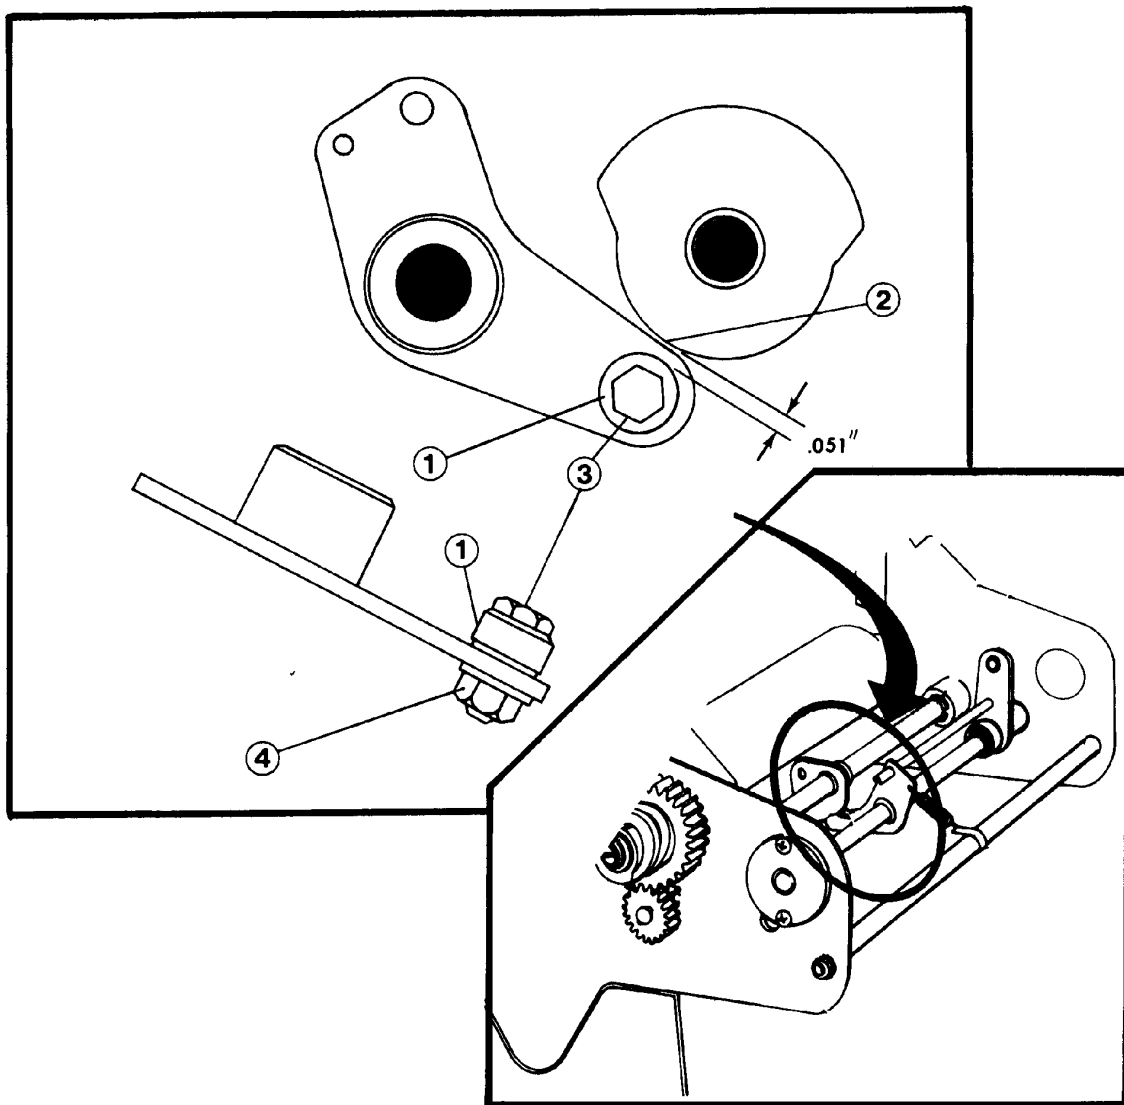

Figure 57 - Ink Ductor Roller
1. Turn the handwheel until the ink ductor truck (item 1, Figure 57) is at the low of cam (2).
2. Loosen locking nut (4) and adjust eccentric screw (3) to obtain a .051" clearance between the truck (1) and cam (2).
3. Tighten nut (4).